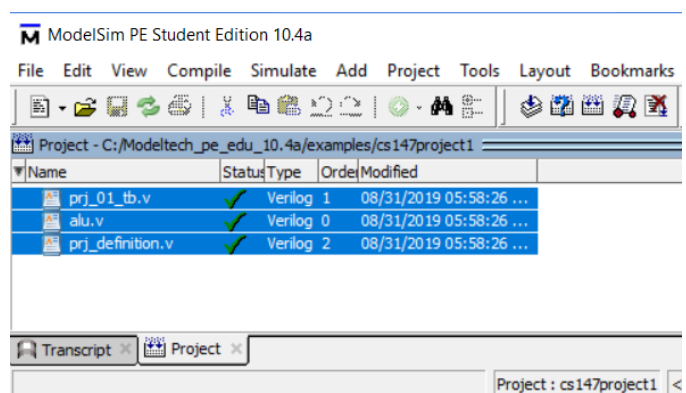

Figure 2.5 Files after compilation
5) After that, files are added to the project. Select all three files and Navigate to *Compile* and select *Compile All* (Figure 2.5). If there is no compilation error, the file will be marked as the green checkmark at the following. If any compilation errors happen to the certain file, that file will be marked as red cross.